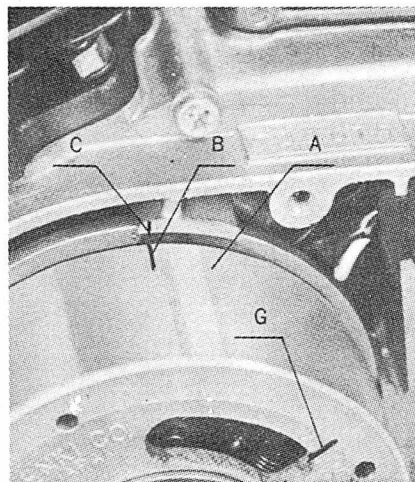

Fig. K1-3—Ignition timing marks are shown at B and C. Mark (G) can be aligned with edge of ignition coil core (H) for adjusting with left side cover installed.
Ignition timing is adjusted by changing the breaker point gap. Ignition timing marks are provided in two places. Mark (G—Fig. K1-3) can be used, without removing the engine left side cover, by aligning mark (G) with edge of coil core (H). With the engine left side cover removed, timing marks (B & C) should be aligned.